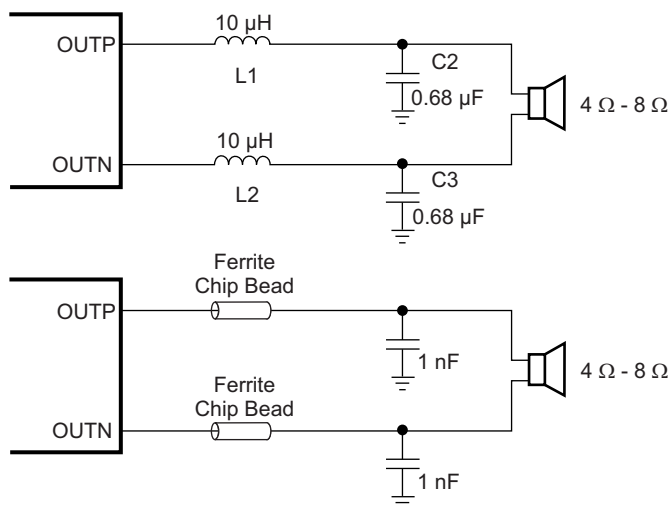

图 31. Output Filters
A complete LC reconstruction filter should be added in some circuit instances. These circumstances might occur if there are nearby circuits which are sensitive to noise. In these cases, a classic second order Butterworth filter similar to those shown in 图 31 can be used.
- Output filter — The ferrite EMI filter (see Figure 31) should be placed as close to the output terminals as possible for the best EMI performance. The LC filter should be placed close to the outputs. The capacitors used in both the ferrite and LC filters should be grounded.